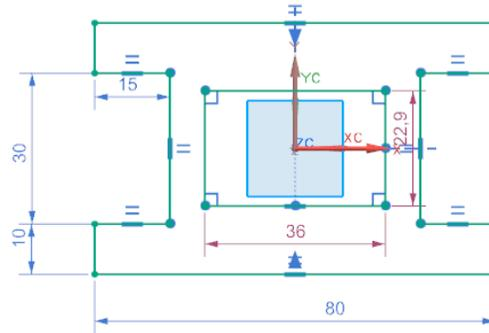

*Figure 3-52 The outer profile after adding the required dimensions*
3. Select the line 1; the current dimension of the line 1 is attached to the cursor. Now, you need to place the dimension at the required location. Click the left mouse button below the line 1 to place the dimension, refer to Figure 3-52. As you place the dimension, an edit box is displayed. Enter **80** in the edit box and press ENTER. Next, choose the **Fit** button from the **View** toolbar.
7. Exit the **Inferred Dimensions** tool by pressing the ESC key twice and then drag the dimensions to place them properly around the sketch, refer to Figure 3-52.